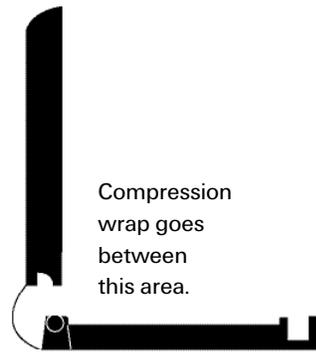

Figure 12
23. Continue wrapping until the compression wrap extends at least 2" past the end of the sheet. Use the enclosed clip to secure the compression wrap. Wrap two laps of compression wrap over the clip and lock in place. (Figure 12) Cut off excess compression wrap 2" from the clip.